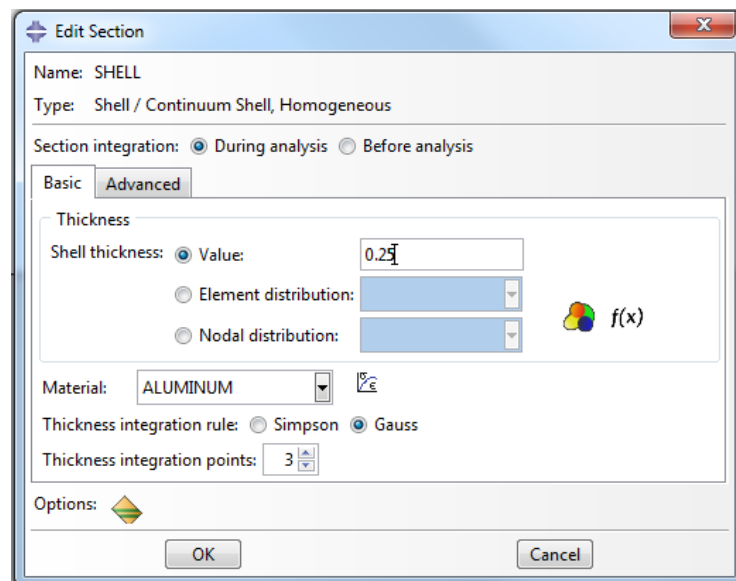

Figure 10. Edit Section Dialog Box (SHELL)
- Under the basic tab enter **0.25** for the **Shell thickness**. Change the **Thickness integration rule:** to **Gauss**. When this is done the number of **Thickness integration points** will default to **3**. The **Edit Section** dialog box should look identical to that in Figure 10.